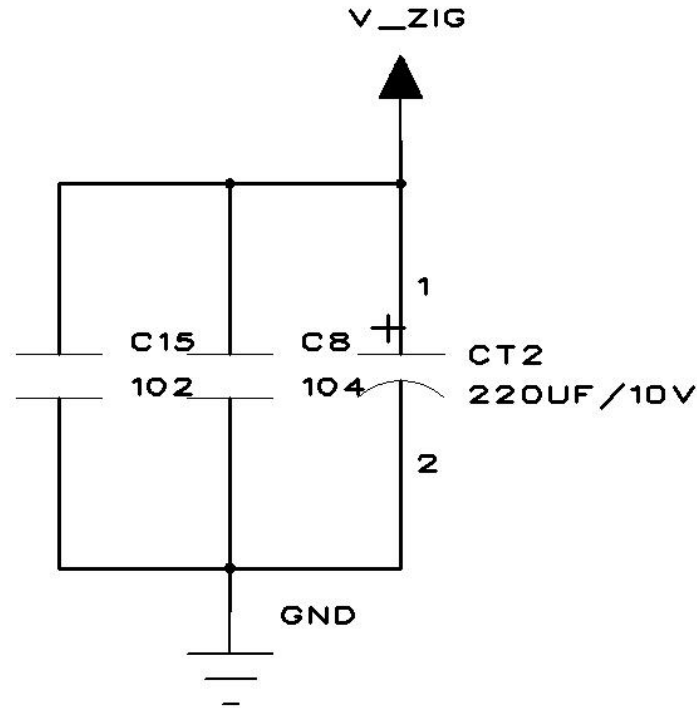

Figure 5-2 Reference circuit for the V_ZIG input
- 1, The host controller support RS232 (such as: PC).The figure 5-2 is the recommend UART convert to RS232 circuit.